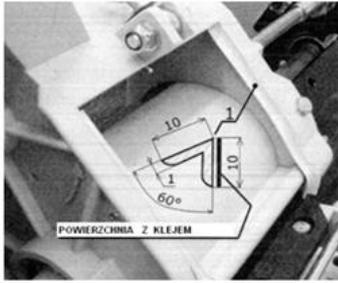

Fig. 13.1
1. sealing the housing and the dispenser flap with the tape [1] in the shape and dimensions shown, Fig. 13.1 and 13.2 on the circumference/.